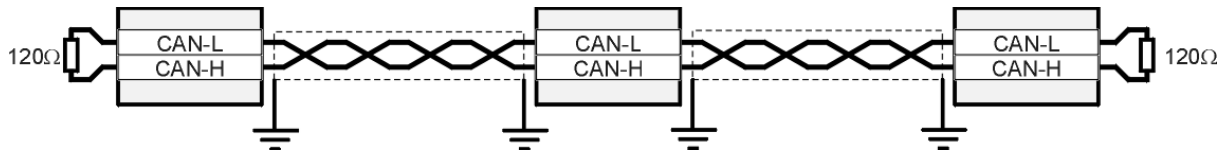

Figure 3.2: Cabling (schematically)
- All nodes of a network are principally connected in series, so that the CAN cable is looped through all controllers (see **Figure 3.2**).